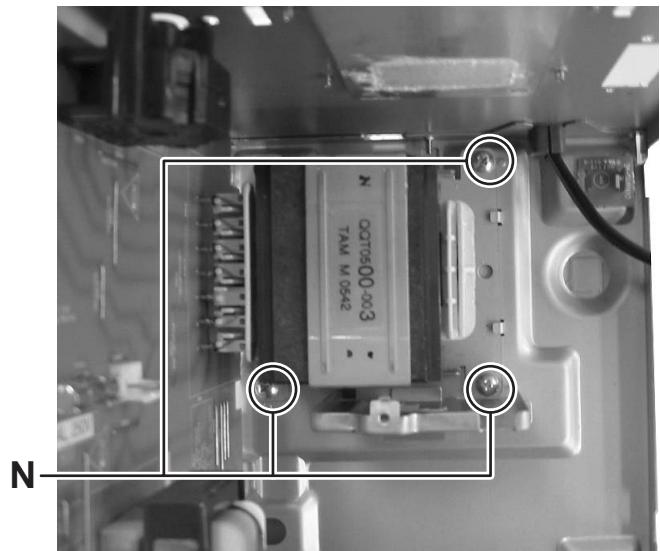

Fig.11
- (4) Remove the three screws **N** attaching the power transformer. (See Fig.11)